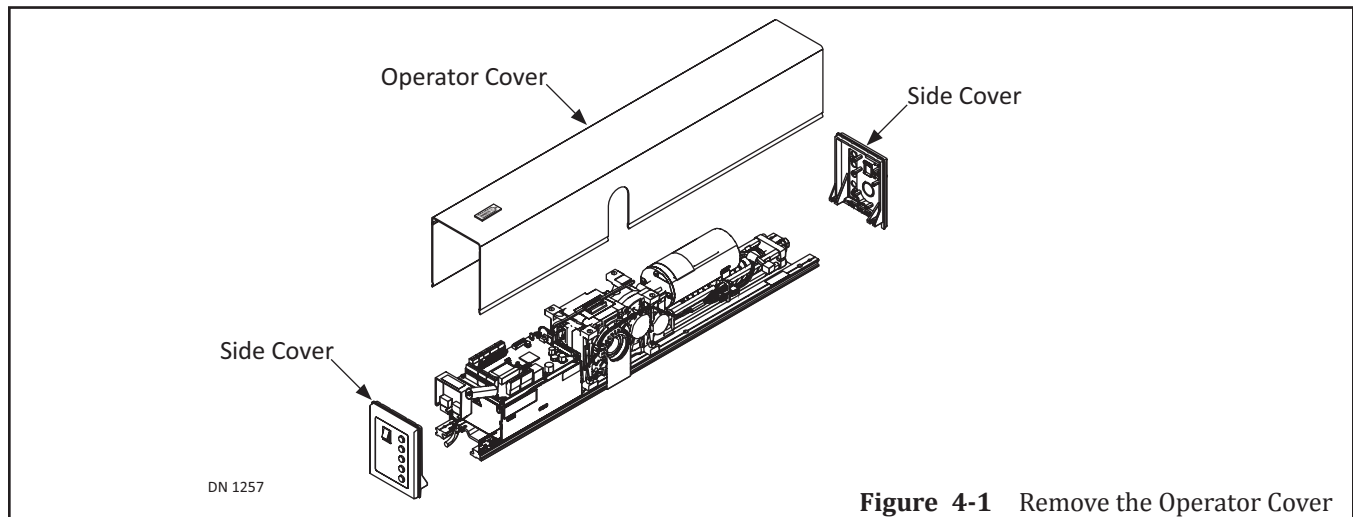

Figure 4-1 Remove the Operator Cover
2. Lift up and remove the Cover. Set aside. Please see Figure 4-1.